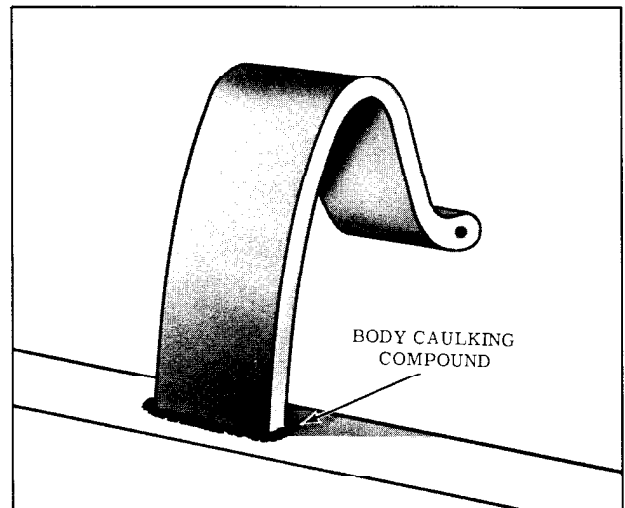

Fig. 17-182 Hinge Sealing
10. To install, reverse the procedure, align the tail gate and reseal water deflector. Apply body caulking compound around hinge where it enters the tail gate. (Fig. 17-182)